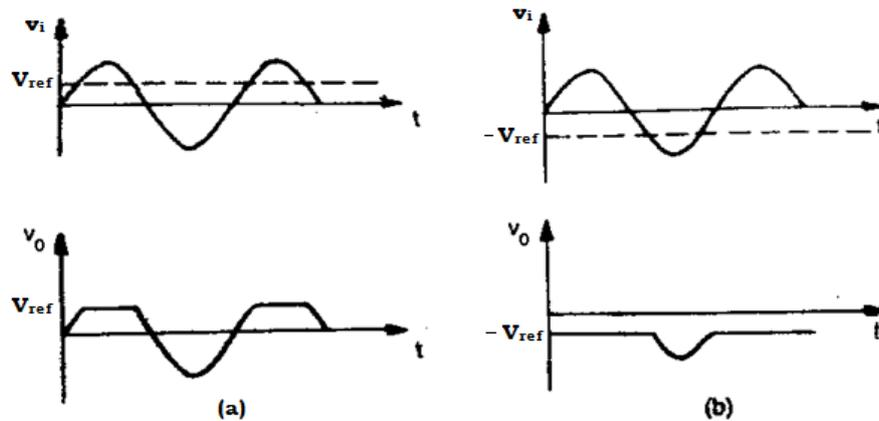

Fig. 3.45 Input and output Waveforms for (a) positive V_{ref} (b) Negative V_{ref}
→ The input and output waveforms are, shown in Fig. 3.45 (a). It can be seen that the portion of the output voltage for $v_0 > V_{ref}$ are clipped off.
- However, if V_{ref} is made negative, then the entire output waveform above V_{ref} will get clipped off as shown in fig.3.45 (b).